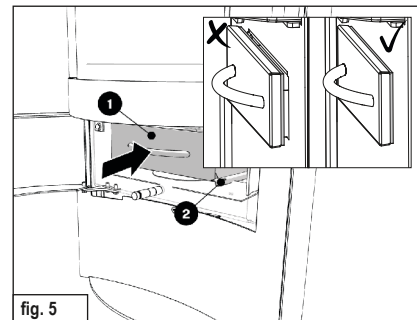

fig. 5
- ▶ Put the cover (❷) back in place (fig. 5).
- ✓ Slide the ash drawer (❶) back into the opening so it is flush with the seal (fig. 5).